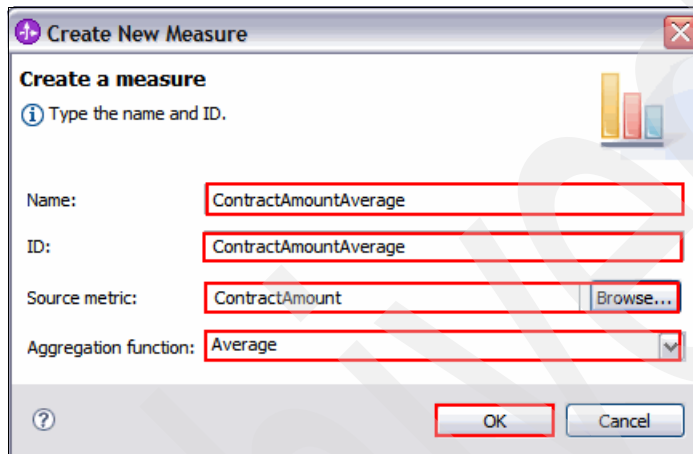

Figure 7-83 Create New Measure window
2. In the Create New Measure window (Figure 7-83):